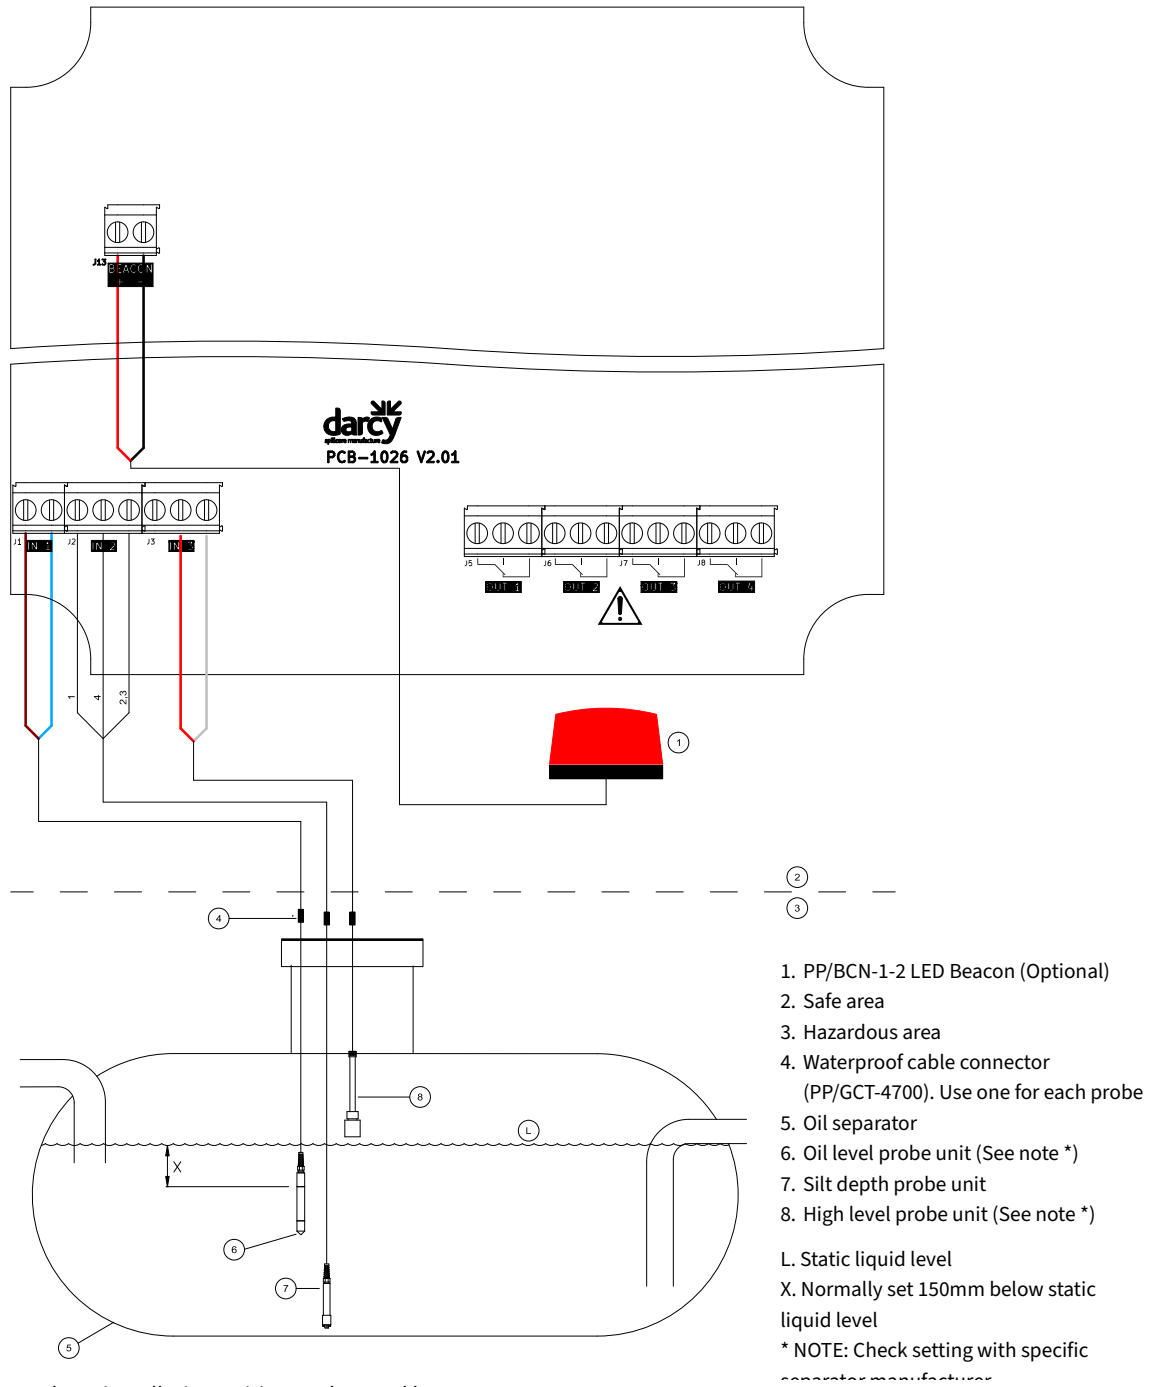

Figure 2: Oil separator alarm installation: Wiring probes and beacon
6. Wire the float, conductivity, or silt probe cables into J1 ... J3 terminals on the PCBA inside the alarm according to Figure 2 and Table 3, Table 4 and Table 5.